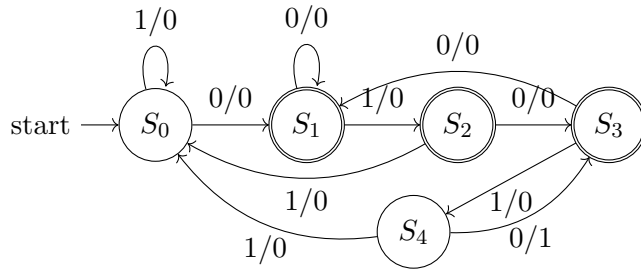

Figure 6.5: State diagram
3. The state diagram of a sequence detector is shown in Fig. 6.5 . State S_0 is the initial state of the sequence detector. If the output is 1, then (GATE EC 2020)